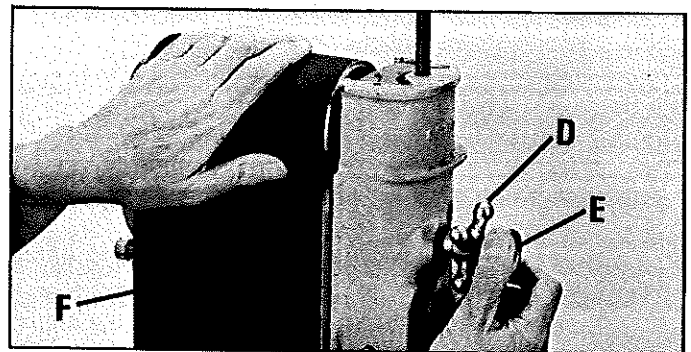

Fig. 10
- (1) The belt should be flat on the platen.
- (2) The belt should be sufficiently tensioned to prevent slipping on very heavy work. For ordinary work, a tension just sufficient to take the curl out of the belt is recommended.
3. Loosen tracking lock knob (D) Fig. 10, and while rotating the belt (F) by hand, as shown, tighten or loosen tracking knob (E) until the belt is running true on the pulleys.
4. Then jog the machine on and off to check further if the belt is tracking properly. If the belt is leading to one side or the other, very gently turn the tracking knob (E) Fig. 10, clockwise to move the belt toward the adjusting screw and counterclockwise to move the belt away from the adjusting screw while jogging the machine on and off.
5. A final adjustment can be made with the motor running. THIS ADJUSTMENT IS USUALLY VERY SLIGHT. After the belt is tracking properly, tighten the lock knob (D) Fig. 10, being careful the adjusting screw (E) does not turn.